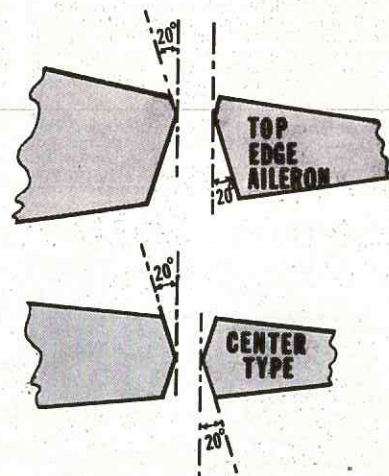

fig. 2
STEP 1. The hinge-joint is a pin type. The edges of the surfaces must be shaped into a VEE with a plane and/or sandpaper. Make the angle about 20 degrees. (Fig. 2)